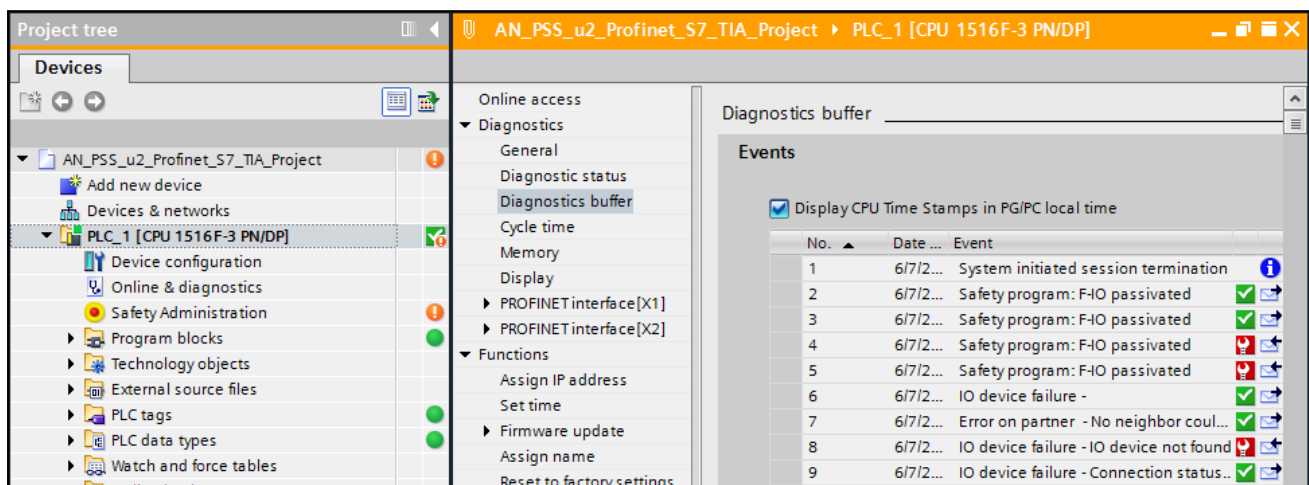

Figure 103: TIA – F-program » Online diagnostic display and 'Diagnostic buffer' of the F-CPU
- ▶ In the TIA, the error is displayed when the online connection is established in the project tree and 'Diagnostics' window (see Figure 103 [63]):